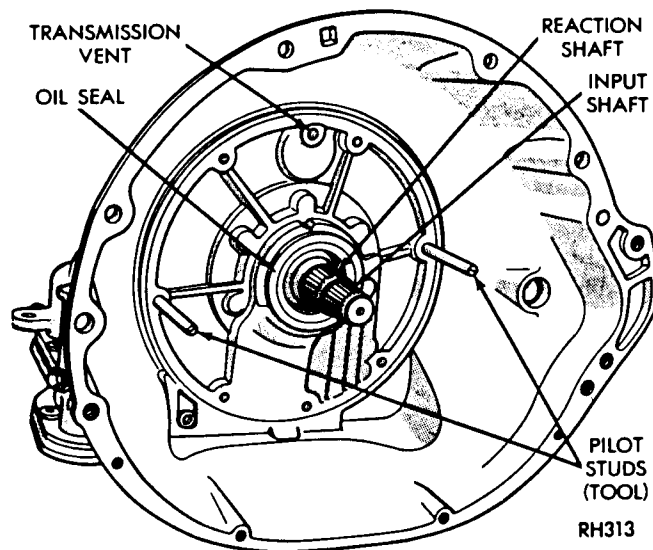

Fig. 49—Installing Oil Pump
(1) Screw two pilot studs, Tool C-3288-B in pump opening in the case (Fig. 49). Install a new gasket over the pilot studs.